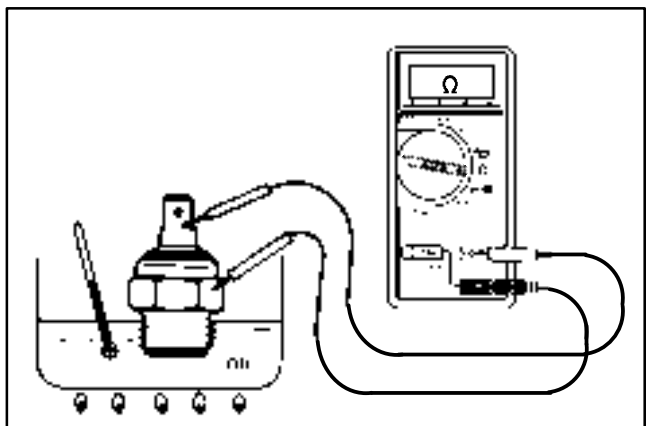

Figure 68
3. Put the end of the switch in a container of oil with a thermometer and slowly heat the oil (Fig. 68).